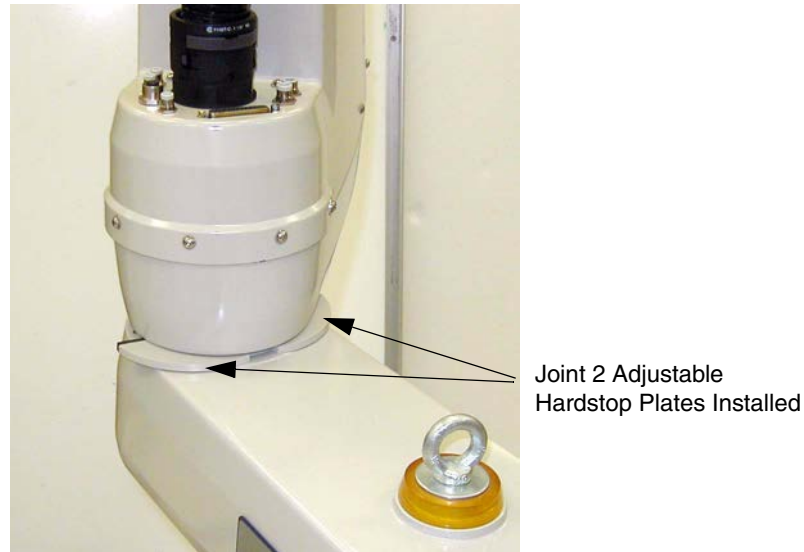
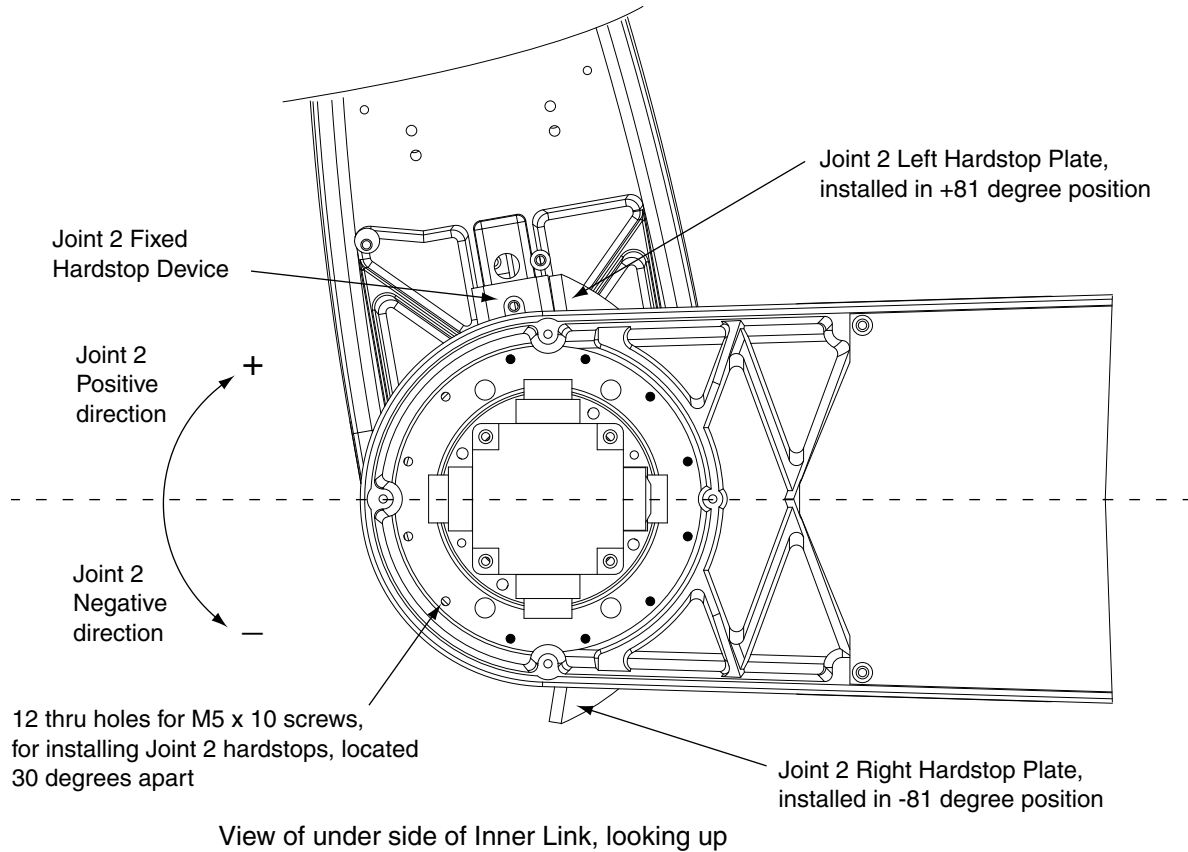

Figure 6-17. Joint 2 Adjustable Hardstop Locations
Figure 6-19. Screw Locations for Joint 2 Adjustable Hardstops
1. Slide the two adjustable hardstop plates into the space between inner and outer links. See Figure 6-17. Looking up at the inner link from underneath, align the holes in the plates with the holes in the inner link - see Figure 6-19 on page 88.